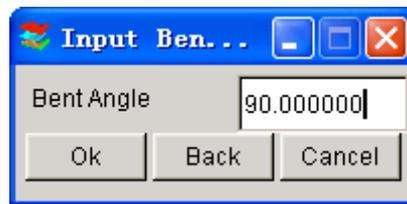

Figure 6.1.6 Define Bent Angle
- The INPUT BENT ANGLE window is then displayed as shown in Figure 6.1.6. The bent angle is the angle between the unfolded surface and base surface. The default angle (0 degrees) indicates that unfolded surfaces are tangent to base surfaces at the unfold line.